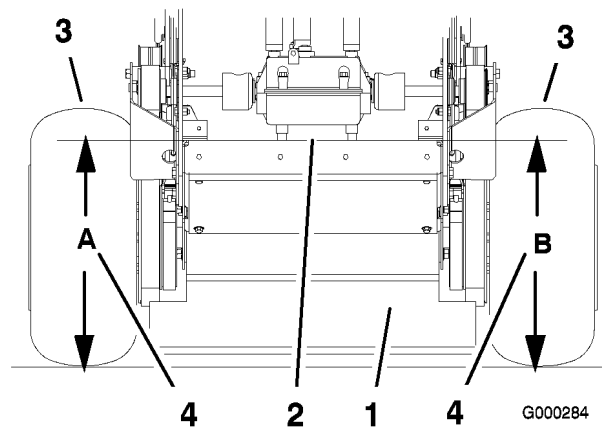

Figure 79
- Measure engine deck height at location **A** (Figure 79).
- Measure engine deck height at location **B** (Figure 79).